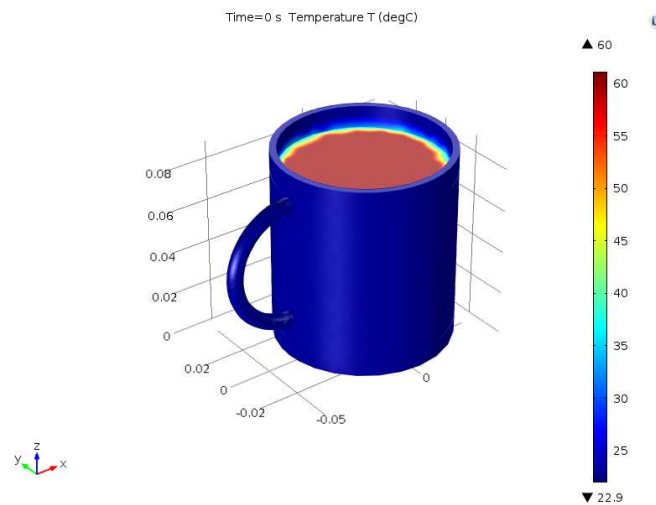

ABBILDUNG 5.1. Initial temperature distribution T (in $^{\circ}\text{C}$) of the coffee cup at initial time $t = 0$ (in s)
- The initial temperature distribution $T(x, 0) = T_0(x)$ at initial time $t = 0$ is shown in Figure 5.1.